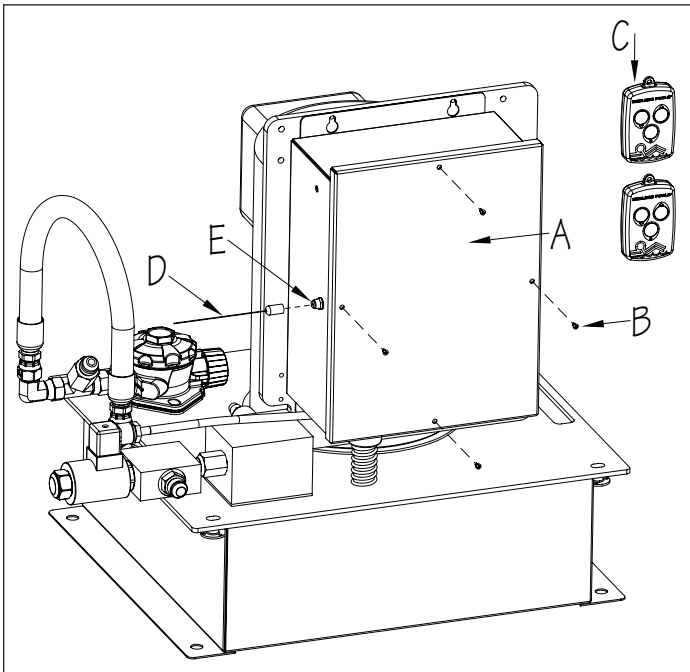

Fig. 21
Remove the Front Cover (A) of the power unit controller by removing the screws (B). Remove the Wireless Transmitters (C) and the Antenna (D). Attach the Antenna to the Antenna Connection (E) on the side of the controller (Fig. 21).